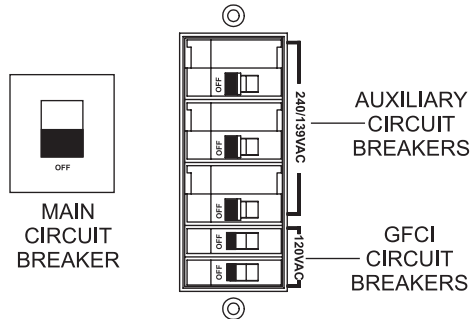

Figure 65. Main, Auxiliary, And GFCI Circuit Breakers (OFF)
2. Place the **main, auxiliary, and GFCI** circuit breakers (Figure 65) in the **OFF** position.
2. Place the **main, auxiliary, and GFCI circuit breakers** in the **OFF** position as shown in Figure 65.